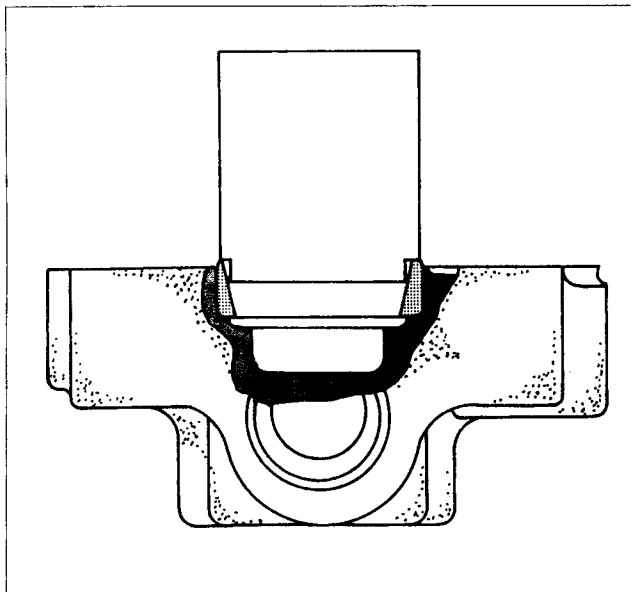

Figure 21. Installation of bearing race into valve block.
1. If bearing (32) was defective and bearing race (63 for the PVE19/21) has been removed, a new bearing race must be installed into the valve block. Refer to Figure 21 and press a new bearing race in place with an arbor press. The bearing race must bottom against the shoulder of valve block at completion of press.